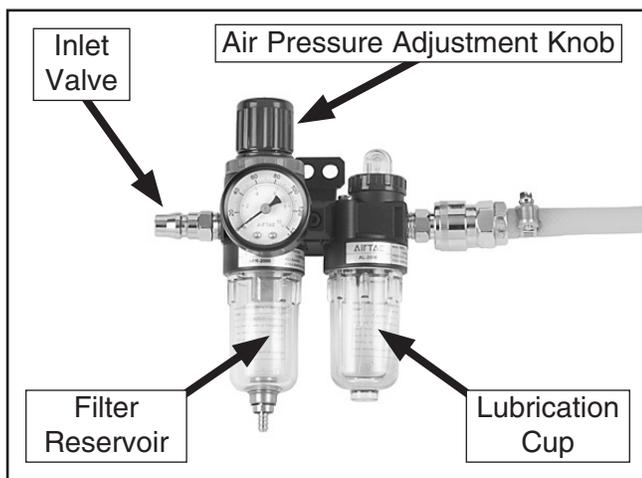

Figure 13. Air regulator unit.
9. Fill the lubrication cup of the air regulator unit with standard pneumatic tool oil (see **Figure 13**).